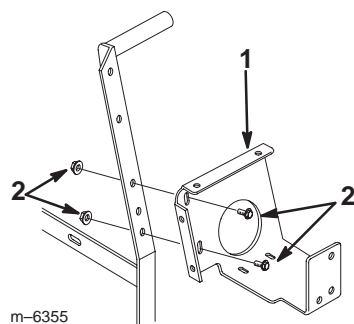

Figure 12
1. Install the control box mounting bracket to the boom holder or control box support bracket as appropriate (Fig. 12) using 2 flange-head bolts (5/16 x 3/4 inch) and 2 flange nuts (5/16 inch).